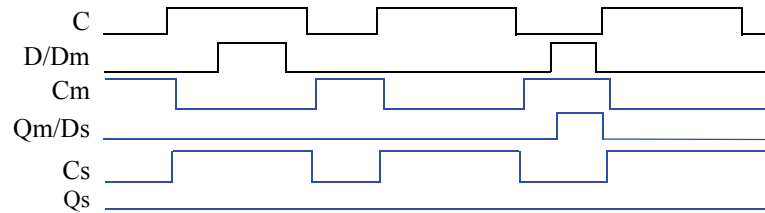

Figure 3.98
- 3.13 Trace the behavior of an edge-triggered D flip-flop using the master-servant design (see Figure 3.25) for the input pattern in Figure 3.98. Assume each internal latch initially stores a 0. Complete the timing diagram, assuming logic gates have a tiny but non-zero delay.